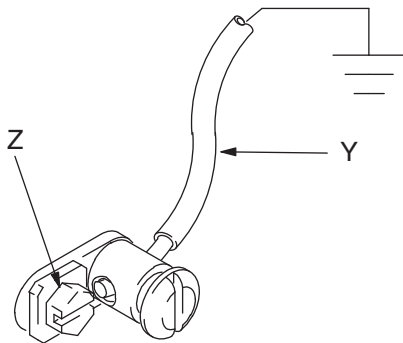

FIG. 1
Pump: Use a ground wire and clamp as shown in FIG. 1.
To ground the pump: Remove the ground screw (Z) and insert through the eye of the ring terminal at end of ground wire (Y). Fasten the ground screw back onto the pump and tighten securely. Connect the other end of the ground wire to a true earth ground. See FIG. 1. To order a ground and wire clamp, order Part No. 222011.